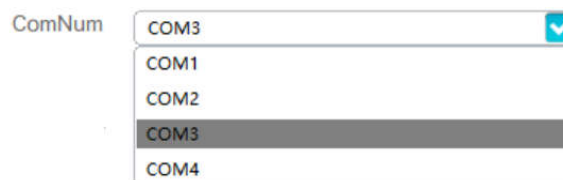

Figure 4-12 Selection of connection serial number
4. Click the icon  to select the serial number and baud rate, and click the  to set whether automatic connection is used for the next software startup, as shown in figures 4-12, 4-13 and 4-14.